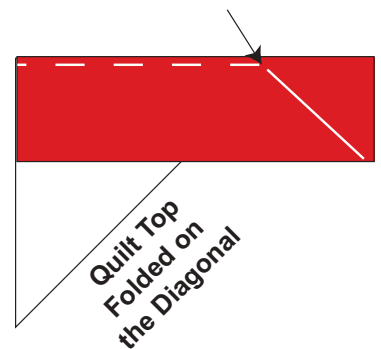

Fig. 2
6. Repeat Step 5 to sew one 2 $\frac{1}{2}$ " x 22" Fabric I strip to the top and to the bottom of the camera block, making sure to stop and start $\frac{1}{4}$ " away from each end of the block. To miter each corner, fold the block on a diagonal, wrong side together. This should line up the strips from adjacent sides (Fig. 2).
7. Starting at the sewn seam (represented by the arrow in Figure 2), draw a 45-degree line to the edge of the fabric. Sew on the drawn line. Trim the excess fabric leaving a $\frac{1}{4}$ " seam. Repeat this step with the remaining corners to make the Center Block (Fig. 3).